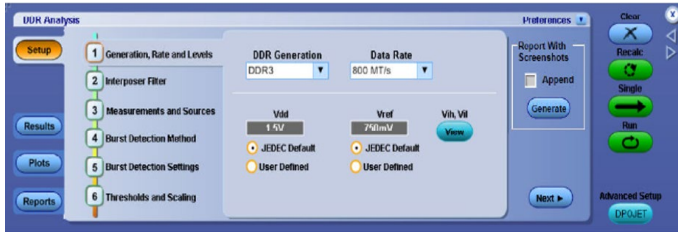

Figure 7. Snapshot of DDR3L Compliance Test Suite
- The following compliance testing setup (Figure 6. DDR3L Compliance Testing Setup) is used with the test suite (Figure 7. Snapshot of DDR3L Compliance Test Suite):